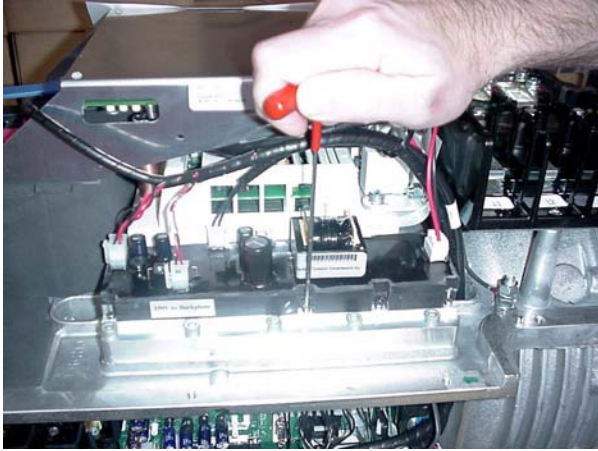

Figure 6-11 HV DC-DC Converter Removal
2. Using a 2.5 mm Allen key, loosen the 4 hex-head screws that are located next to the IGBT Inverter. Remove the 4 hex-head screws that are located on the front side of the Converter. Refer to Figure 6-11.